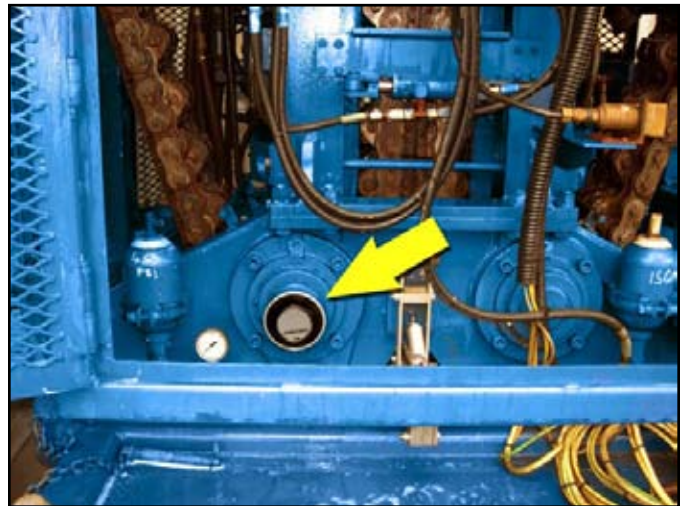

Figure 7-13. Location of Injector Head Hubometer
The chart in Fig. 7-13 shows the most commonly used guide arch sizes for various sizes of CT string.
- Check the injector head hubometer (see Fig. 7-13):